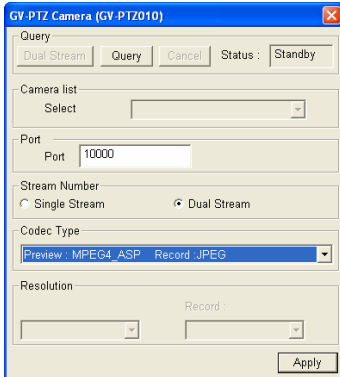

Figure 23-4
4. The GV-System will automatically query for the IP camera, and the status will be indicated as “Standby”. If not, modify the HTTP port (Figure 23-3) and streaming port (Figure 23-4) to match those of the IP camera, and click the **Query** button to detect the IP camera again.